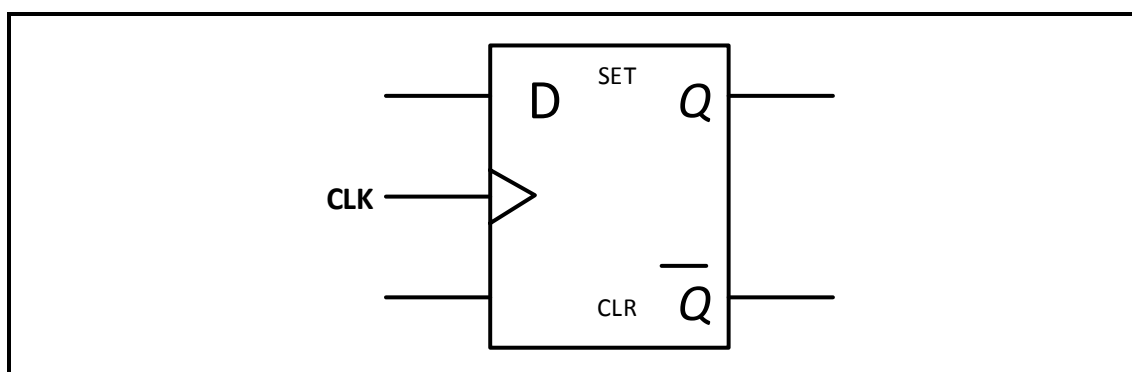

FIGURE 4.5: D-TYPE FLIP-FLOP
- 4.5 FIGURE 4.5 below represents the logic symbol of a clocked D-type flip-flop.